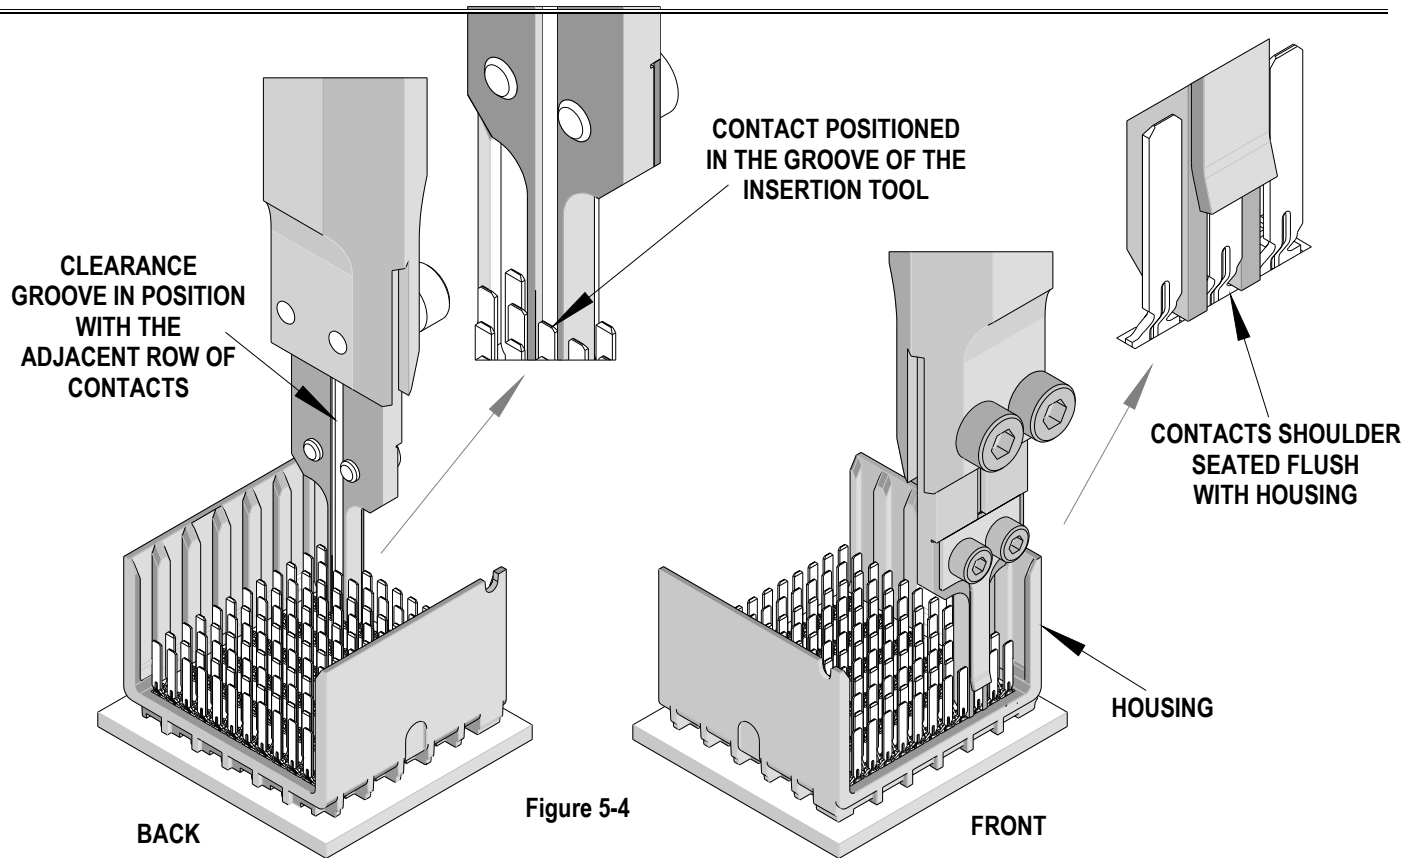

Figure 5-4
7. Continue pushing the signal contact until the insertion tool and terminal shoulder are seated securely to the inside housing surface. See Figure 5-4.